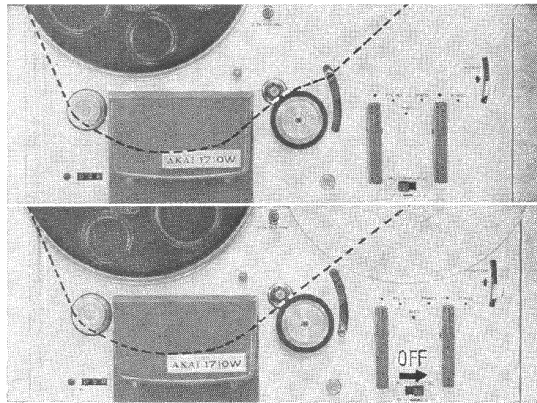

Fig. 3
Thread the tape as shown by the dotted line in Fig. 3 ④.
If the automatic shut off is not required, thread the tape as shown by the dotted line in Fig. 3 ①⑥.